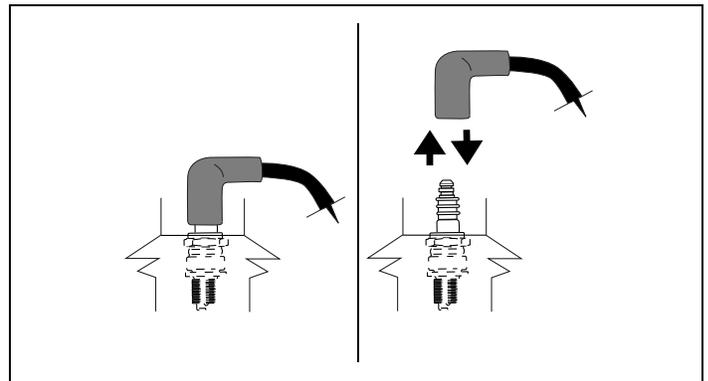

Figure 1. Disconnecting/Connecting Spark Plug
- Carefully disconnect spark plug wire and keep it away from spark plug. See Figures 1 and 2.